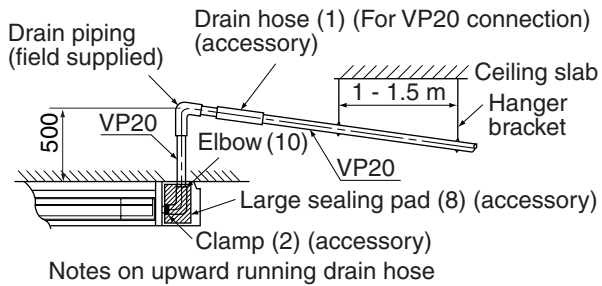
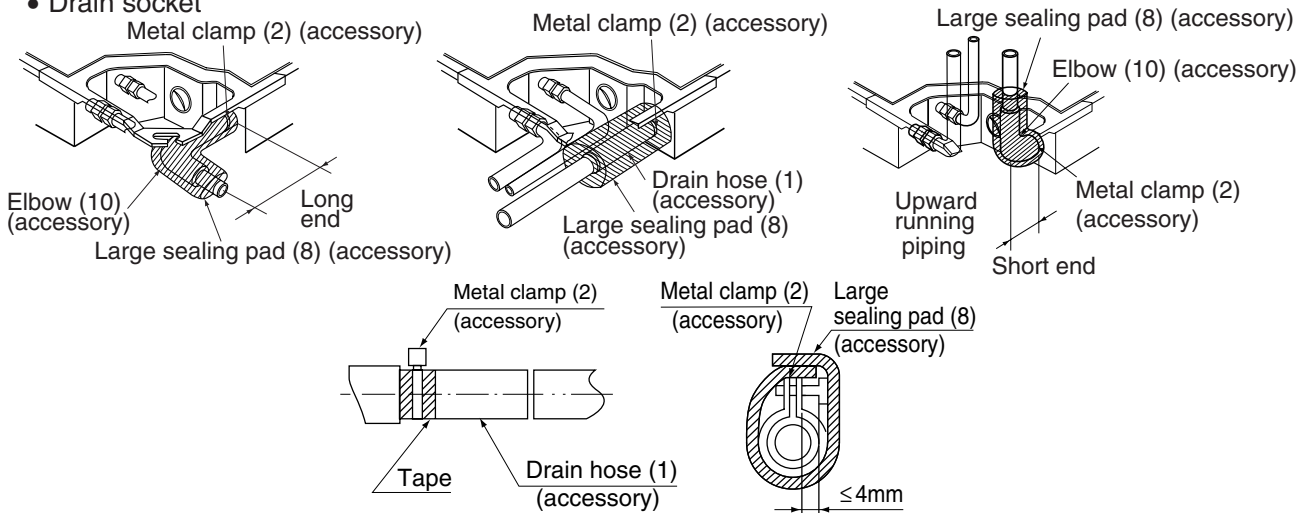

Fig. 26
Fig. 28
1. Rig drain piping (Refer to Fig. 26)
- To keep the drain hose from sagging, space hanging wires every 1 to 1.5 m. (Refer to Fig. 26)
- Use only the included drain hose (1), (for rightward running drain hose) or elbow (10) (for upward running drain hose) and clamp (2).
- Fit the drain hose (1) or elbow (10) over the drain pipe up to the neck and fasten tight with the clamp (2).
- Insulate the clamp (2) and drain hose or elbow (10) with the included sealing pad (8). (Refer to Fig.28)